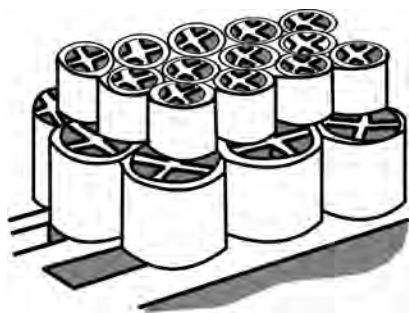

FIGURE 16.23 Stacked packing to support dumped packing.
- In larger diameter columns (such as sulfuric acid plant columns), a series of ceramic grids is installed resting on brick arches or piers. Then a layer of cross-partition rings or grid blocks is stacked on these grid bars to support the dumped ceramic packing, as shown in Figure 16.23.